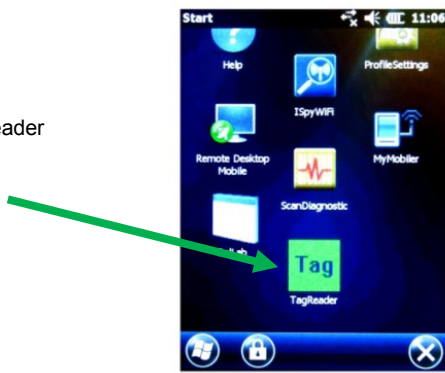

Figure 21. Tagreader demo icon
1. Return to the Start screen. Scroll down and tap the **TagReader** icon (Figure 21).